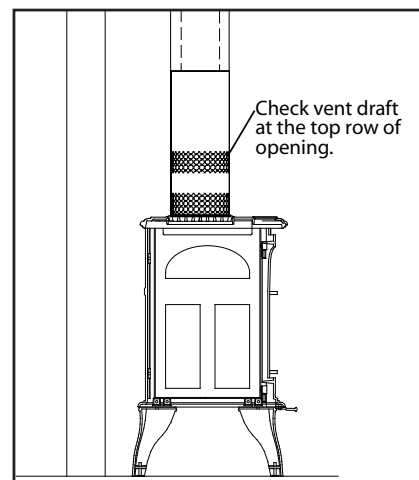

Figure 54: Draft test place.
4. After a minimum of 10 minutes operation, test the chimney draft with a smoke match at the top row of the pattern to confirm that there is adequate draft or 'pull' at the openings around the body of the Drafhhood Adaptor, as shown in Figure 54.